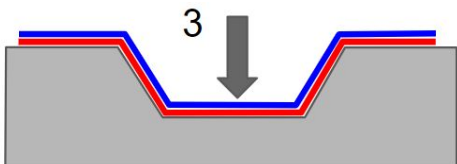

Fig.5
5) Once the film comes into contact with the surface, press firmly using a plastic squeegee or the finger when appropriate. This point is essential to expel the trapped air under the material. If needed, puncture any air bubbles that appear. *Fig.5*